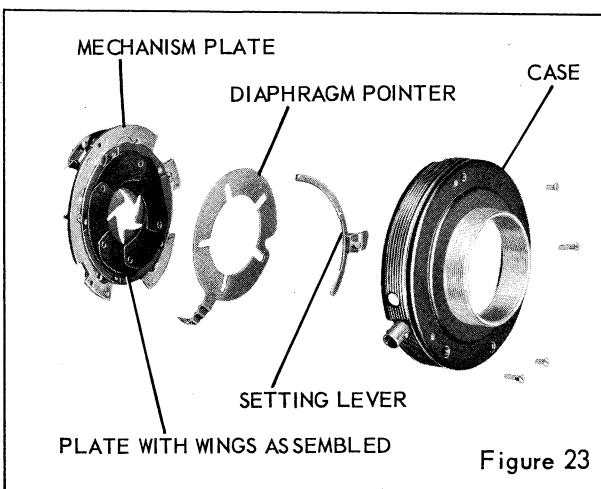
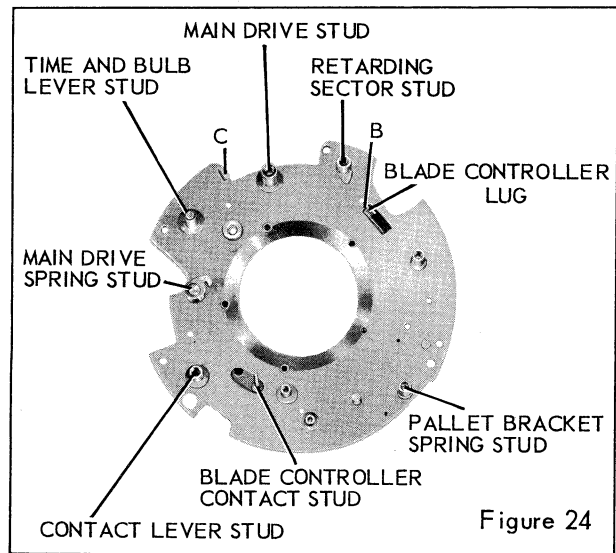

Figure 23
Figure 24
1. Apply a thin film of grease (Texaco Uni-temp-RCX169 Grease) in the slot on the main drive assembly where it engages the stop stud on the SETTING LEVER, figure 23; on the MAIN DRIVE STUD, figure 24; on the LATCH, figure 7, at the point of contact with the LATCH SPRING; and on the latch where it contacts the RETARDING SECTOR STUD, figure 24. This area of the latch should be burnished before applying the lubricant.
2. Contact lever complete on the CONTACT LEVER STUD, figure 24. The ends of the contact lever spring should face in, toward the shutter blades. Turn the long end of the spring in a clockwise direction to place it in tension, and rest it in the groove in the case. Form the short end of the spring around the vertical part of the contact lever tail.
8. Cock and release the shutter and at the same time retard its opening action by placing one finder against the shutter SETTING LEVER, figure 23. Observe whether the BLADE CONTROLLER CONTACT STUD, figure 24, makes contact
11. Cock and release the shutter and at the same time retard its opening action by placing one finger against the shutter SETTING LEVER, figure 23. Observe whether the BLADE CONTROLLER CONTACT STUD, figure 24, makes contact with the contact spring when the shutter blade opening approximates the f/16 diaphragm opening. If the stud does not touch the spring at this diaphragm opening, bend the end of the spring toward or away from the stud.
12. MECHANISM PLATE, figure 23.
3. BLADE WITH DOUBLE BLADE BUSHING, and stud, figure 13, with the hole in the blade over the stud near the MAIN DRIVE STUD, figure 24, on the mechanism plate. Refer to figure 15 for positioning of the shutter blade.
plate opposite the MAIN DRIVE STUD, figure 24. After the diaphragm retainer is secured, the shutter blades should operate freely.
8. The shutter CASE, figure 23, DIAPHRAGM POINTER, and the SETTING LEVER with stop stud should be thoroughly cleaned. Apply a thin film of grease (Texaco Unitemp-RCX169 Grease) in the recess in the case occupied by the setting lever. Then wipe this area lightly with a clean cloth.